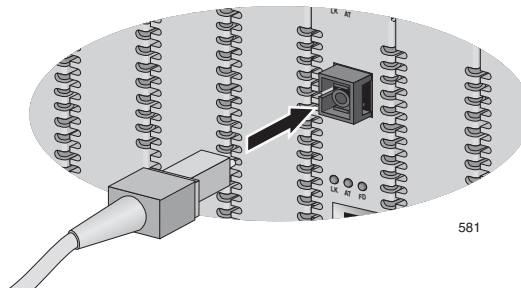

Figure 30. Connecting to the Simplex SC Fiber Optic Port
2. Connect the appropriate optical cable to the port, as shown in Figure 30.